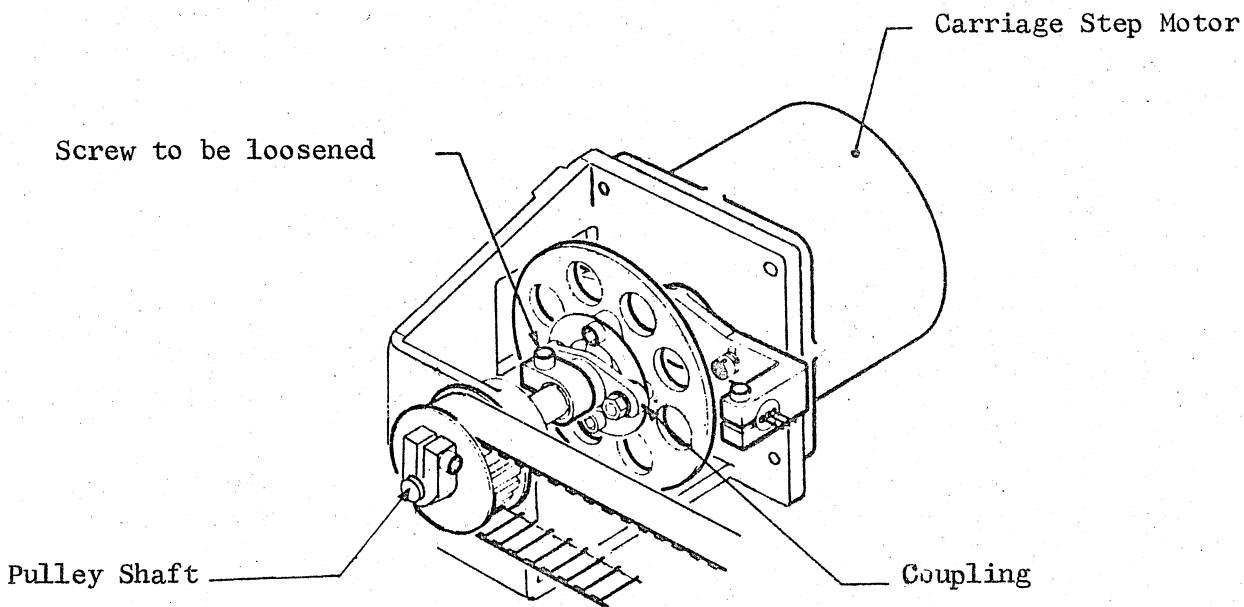

Fig. 8.6
- . Move the carriage toward the right side to gain access to the Allen screw fixing the step motor coupling to the pulley shaft (see fig. 8.6).